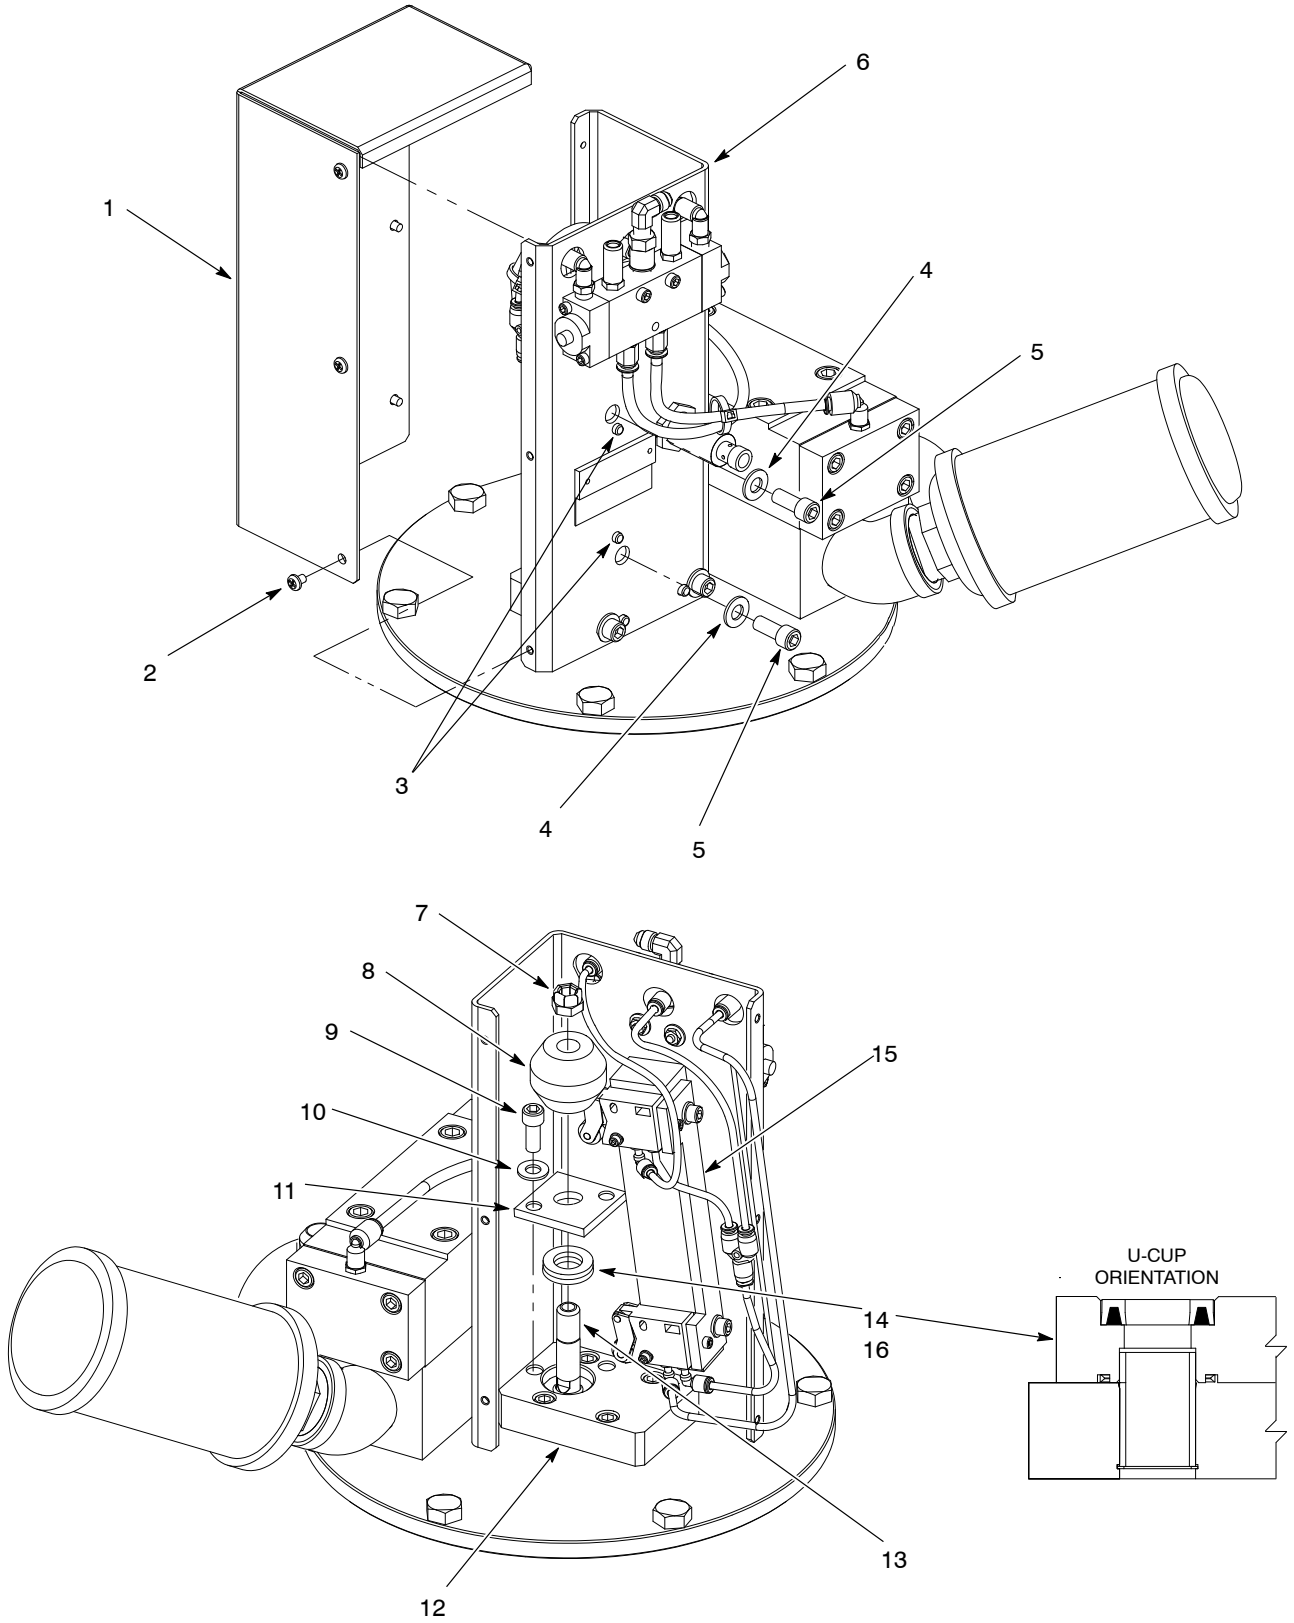

Figure 8 Replacing the Trip-Rod U-Cup
1. See Figure 8. Remove the screws (2) securing the cover (1) to the trip-rod assembly (6).
2. Remove the screws (5) and washers (4) securing the trip-lever mounting pad (15) to the trip-rod assembly (6).
3. Swing the trip-lever mounting pad (15) away from the seal retainer plate (11).
4. Place a wrench on the flats of the piston rod (13). Remove the nut (7) securing the trip-bar (8) to the piston rod.
5. Remove the screws (9) and washers (10) securing the seal retainer plate (11) to the trip-rod retainer (12).
1. See Figure 8. Lubricate the new U-cup (14) with TFE grease (16). Insert the U-cup into the trip-rod retainer (12) as shown.
2. Install the seal retainer plate (11) onto the trip-rod retainer (12) using the screws (9) and washers (10). Tighten the screws to 22–25 ft-lb (30–33 N•m).
3. Place a wrench on the flats of the piston rod (13). Install the trip-bar (8) to the piston rod using the nut (7). Tighten the nut securely.
- a. Make sure that the mounting pad pins (3) protrude through the trip-rod assembly (6) as shown.
- b. Secure the trip-lever mounting pad (15) to the trip-rod assembly using the screws (5) and washers (4). Tighten the screws to 22–25 ft-lb (30–33 N•m).
5. Install the cover (1) to the trip-rod assembly using the screws (2). Tighten the screws securely.